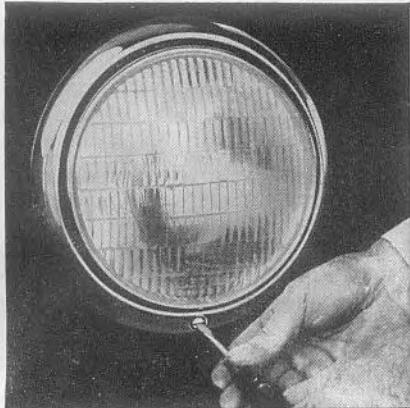

Fig. 27—Removing the Headlamp Outer Rim
1. Remove headlamp door rim as shown in Fig. 27.